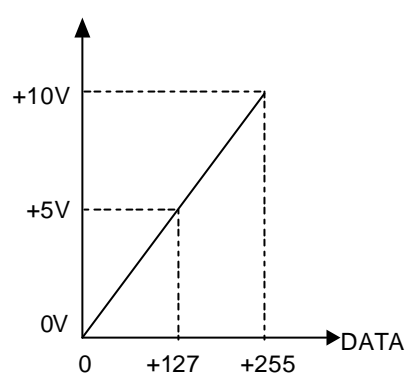

Fig. 2
- (ii) Speedometer output data and load meter output data carries out the D/A output in Fig. 2.